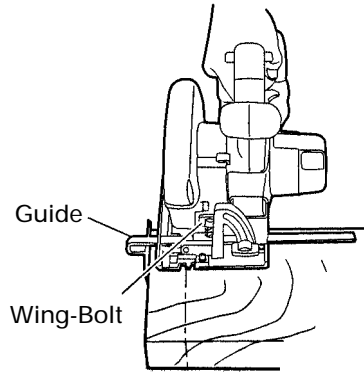

Fig. 12
4. Regulating the guide (Fig. 12)